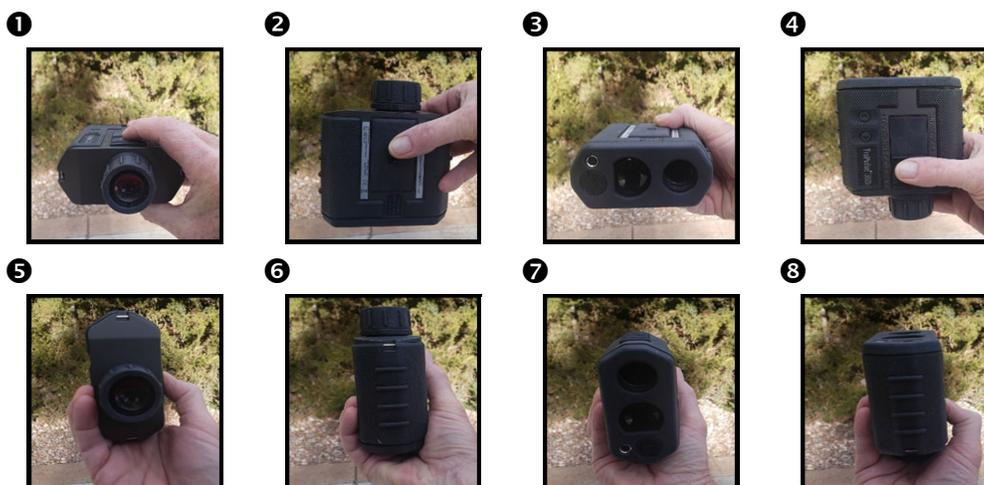

Figure 15
NOTE At each laser position, starting with ❶ shown in Figure 15, press Fire and wait about one second before shifting the laser to the next position: